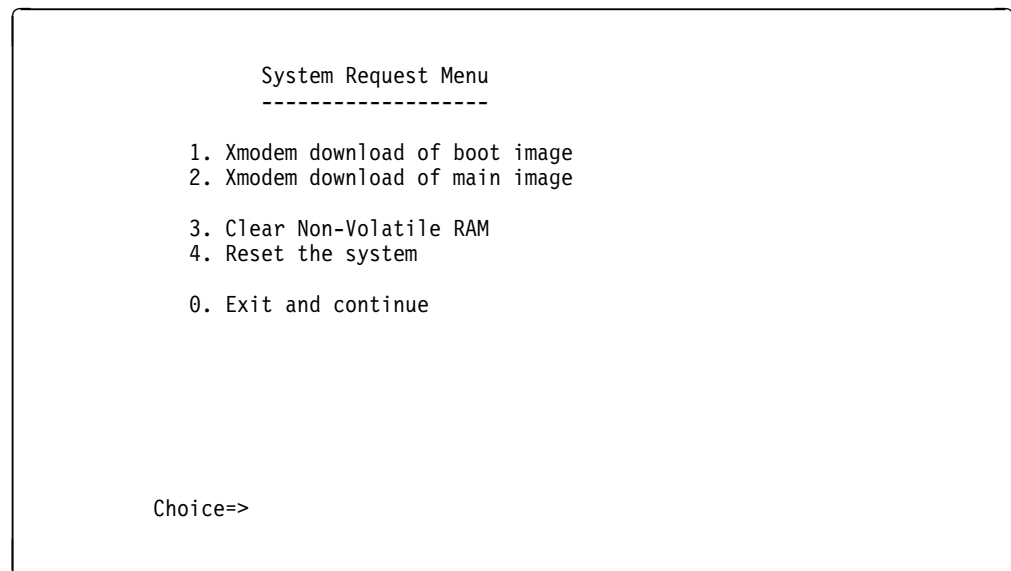

Figure 7-3. System Request Menu
- Step 2.** Press the System Request button, the unlabeled button on the lower left portion of the front panel beside the Reset button. The console will display the menu as shown in Figure 7-3.